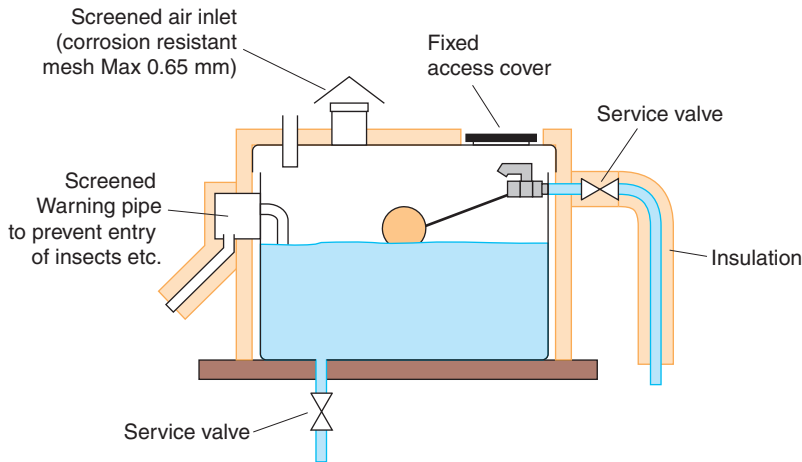

Figure 5.15 Requirements of CWSCs
The CWSC is a very important part of a domestic cold water system, and as such is well covered by the Water Regulations. Figure 5.15 shows a CWSC that fully meets the Water Regulations requirements of Schedule 2, Paragraph 16(4) for CWSC installations.